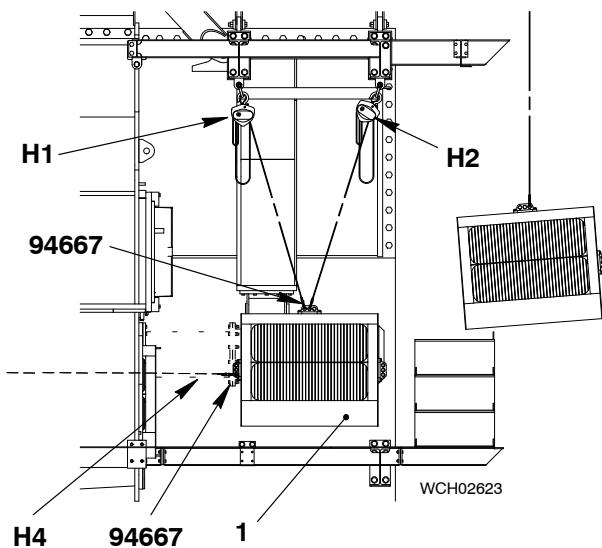

Fig. 10
- 12) Remove the manual ratchet (H4, Fig. 10) from the rear of the water separator (1).
- 15) Lower the water separator (1) to the floor.
- 16) Remove the spur-gearied chain blocks (H1, H2) from the tool (94667) on the water separator (1).
- 18) Use the engine room crane to move the water separator (1) to an applicable area.